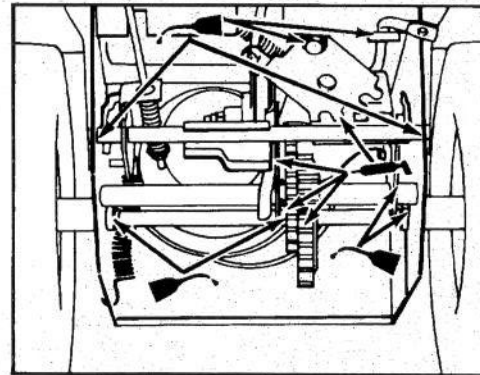

Figure 16
- Lightly lubricate points shown with SAE 10W-40 oil or grease (Fig. 16). Wipe up any excess oil or grease.